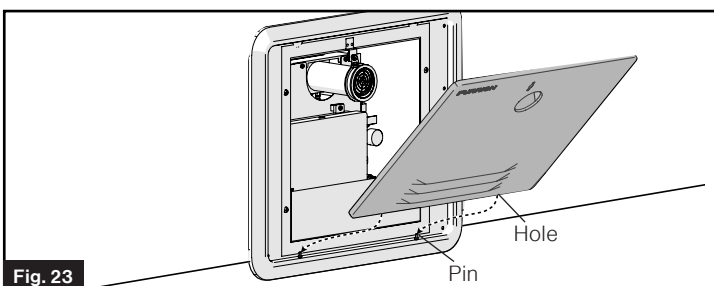

Fig. 23
6. Insert the door into the pins at the bottom of the water heater. (Fig. 23)